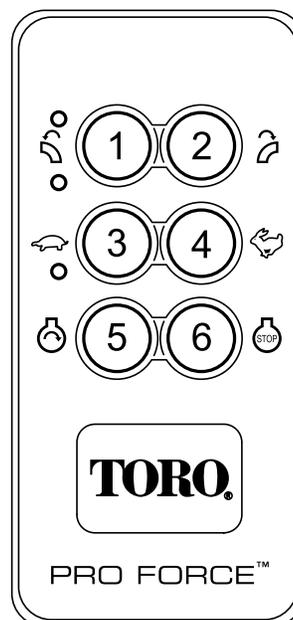

Figure 14
4. Engine Start will only become energized by pressing the Start button while the Engine Start Enable Condition is active. The Engine Start Enable Condition becomes active only when the following Engine Start Enable Sequence has been performed (Figure 14).